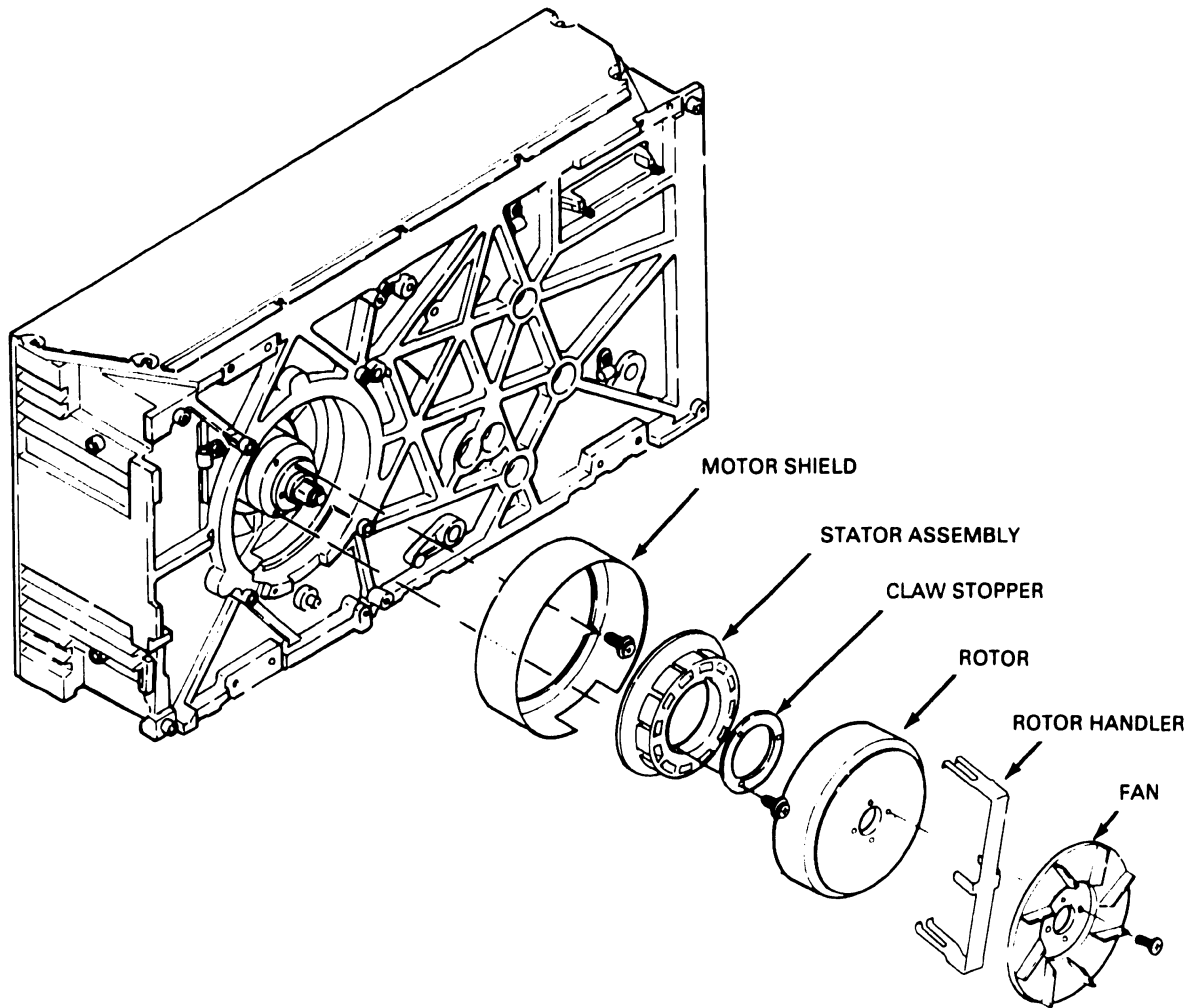

Figure 4-7 D22x7 Stator Assembly
7. Remove the rotor using the special rotor handling tool (see Figure 4-7).
8. Loosen the three screws that secure the claw stopper (see Figure 4-7) and remove the claw stopper.